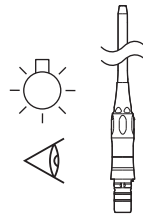

Fig. 24
- 2 Visually check that all contamination is removed (Fig. 24).